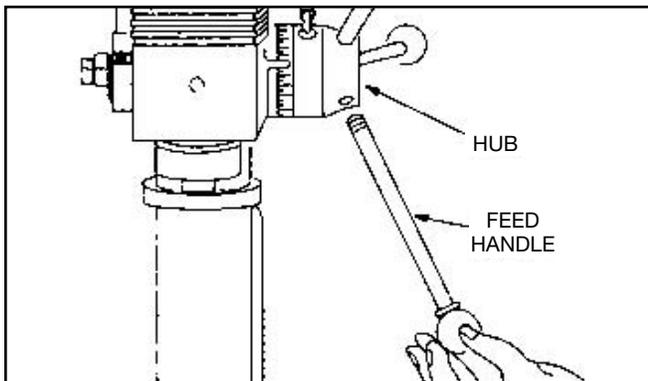

FIGURE 16
1. Locate three (3) feed handles among loose parts.
2. Screw the feed handles into the threaded holes in the hub and tighten. See figure 16.